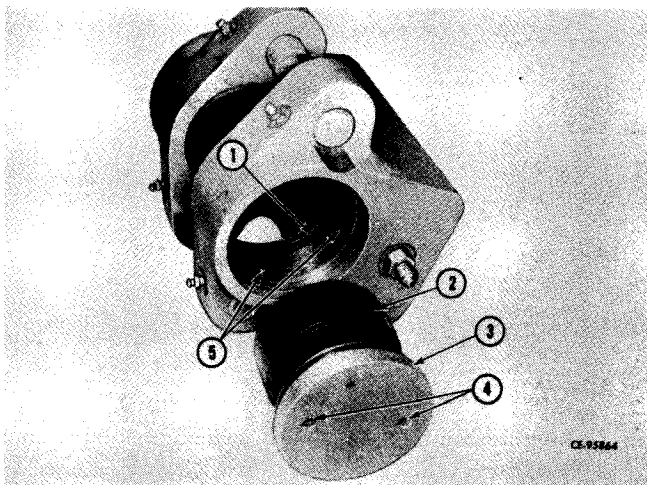

Figure 13-11
Remove plugs (3, Fig. 13-11) and pistons (2) using a suitable spanner wrench in plug holes (4). Remove and discard "O" ring (1).
Wash all parts (with exception of lining and carrier assemblies) thoroughly in clean, de-natured alcohol. Pass a soft copper wire through ports (5, Fig. 13-11) in piston bores to be certain they are clear. Check bores, pistons and plugs for nicks, burrs and scratches. If these abrasions are too deep to be repaired part will have to be replaced.
Install a new "O" ring (1, Fig. 13-11) inside piston bore. "O" ring must seat in groove naturally, not rolled or twisted. Lubricate all "O" rings well with brake fluid. Install piston (2) and plug (3) assembly. Install and tighten plugs (3) with a suitable spanner wrench using holes (4).